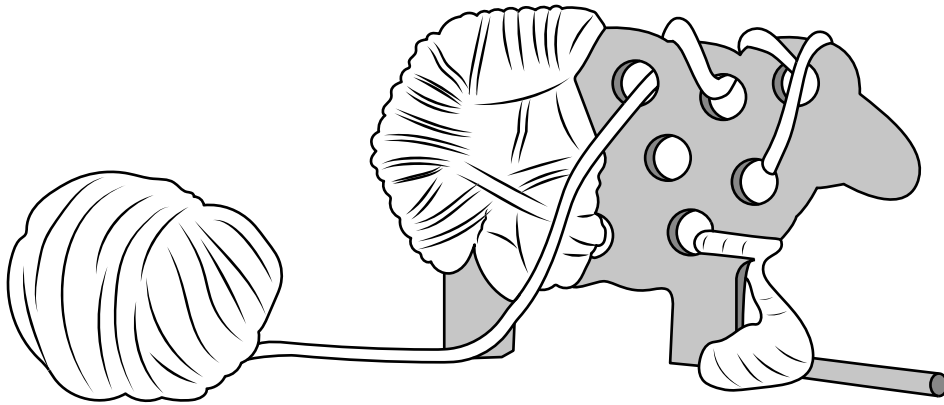

Figure 2
2 Figure 2 shows a wooden sheep that is being threaded with a yarn.
- (a) Name **one** specific animal fibre that can be used to make the yarn being threaded in Figure 2.